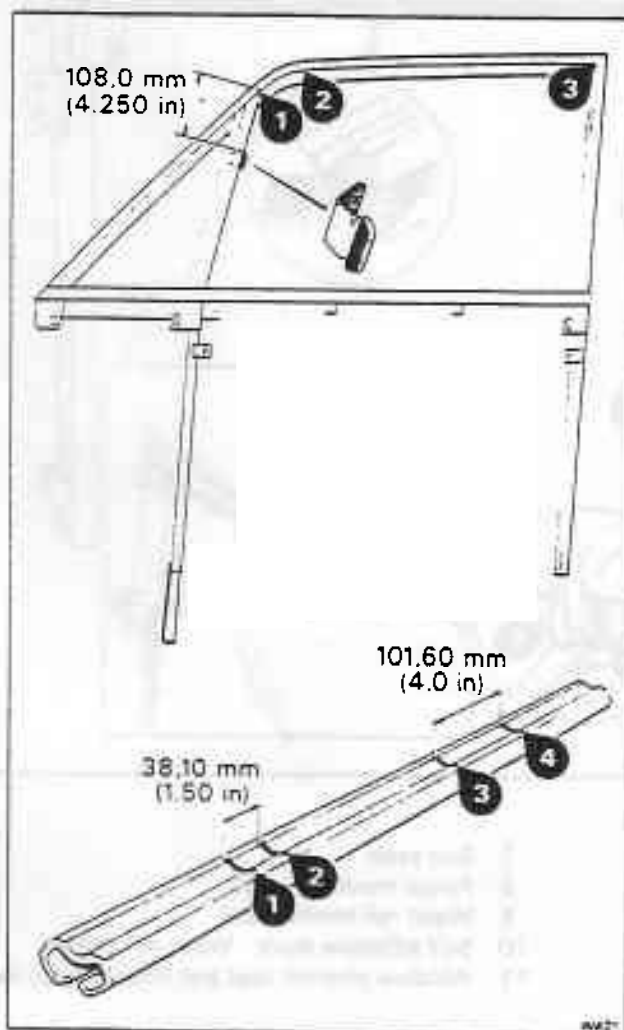

Fig. S3-12 Window frame channel seals and guides
the window glass channel. To ensure that the slots in the channel seal are positioned correctly refer to figure S3-12.
9. Ensure that the window glass guides are in position on the frame (see fig. S3-12). To fit them, pull out the channel seal in the correct area and spring the guides into the channel. Fit the seal.